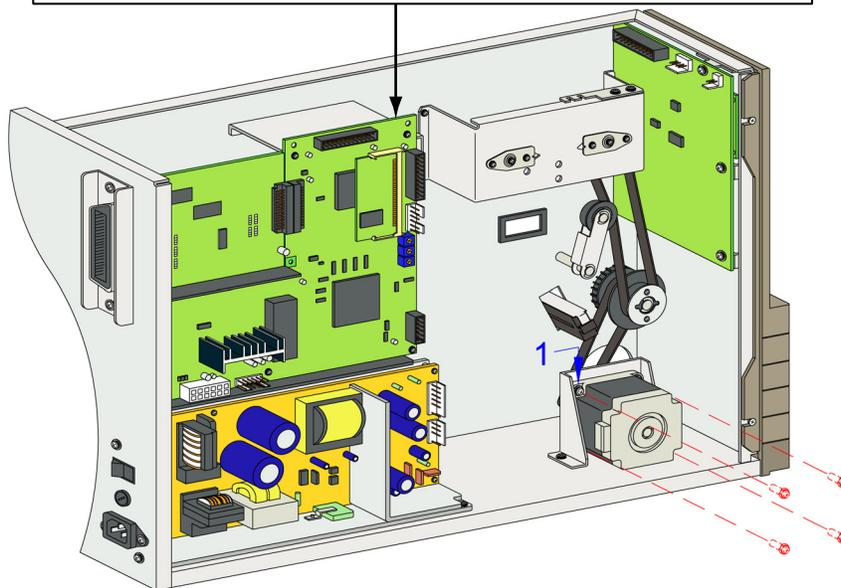

Figure 8-6, Timing Belt Tension
To adjust the tensioning of the lower timing belt, simply loosen the four motor mount screws (1, Figure 8-6) and then retighten them. The motor's mass will provide the proper belt tension without overt pressure, then retighten the four screws (1).